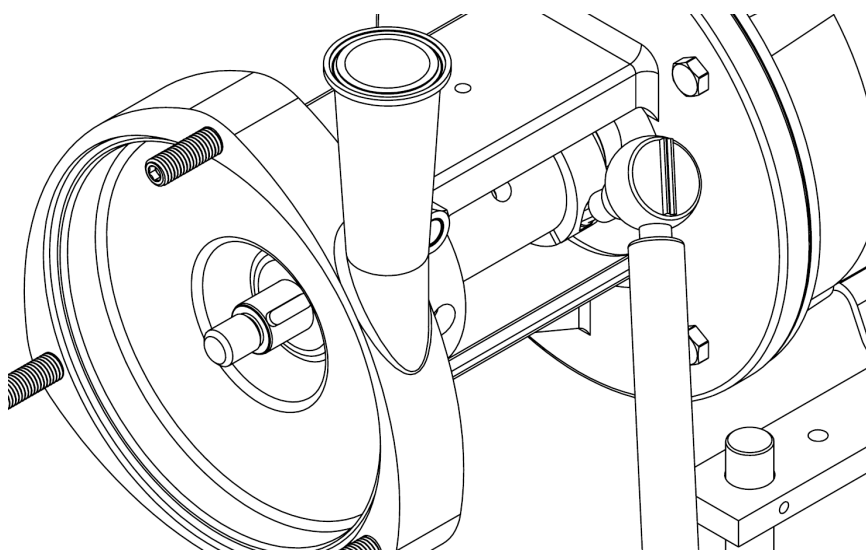

Figure 19
2. Loosen the socket head cap screw in the shaft collar and retighten it just enough so the stub shaft is still able move on the motors shaft. Figure 19.